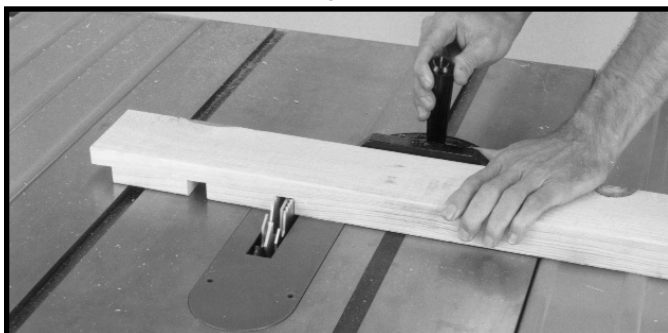

Fig. 70
3. Fig. 70, shows a typical dado operation using the miter gage as a guide.